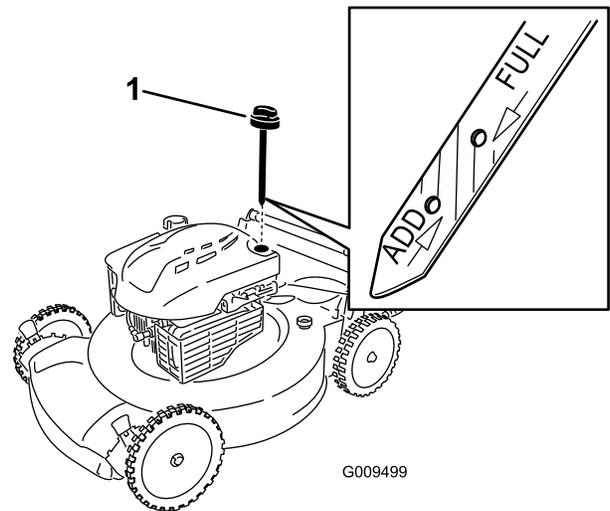

Figure 17
2. Remove the dipstick (Figure 17).
4. **Slowly** pour oil into the oil fill tube until the oil level reaches the **Full** line on the dipstick (Figure 17). Wait 3 minutes after adding oil to check the oil with the dipstick. **Do not overfill.** (Max. fill: 20 oz. (0.59 l), type: SAE 30 detergent oil with an API service classification of SF, SG, SH, SJ, SL, or higher.)